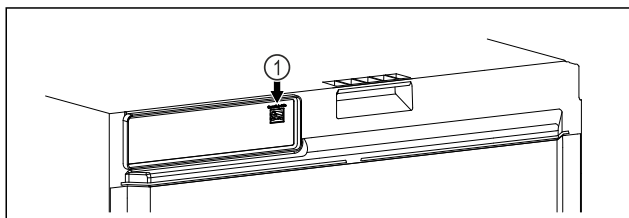

Fig. 115
- SmartModule Fig. 115 (1) is inserted.